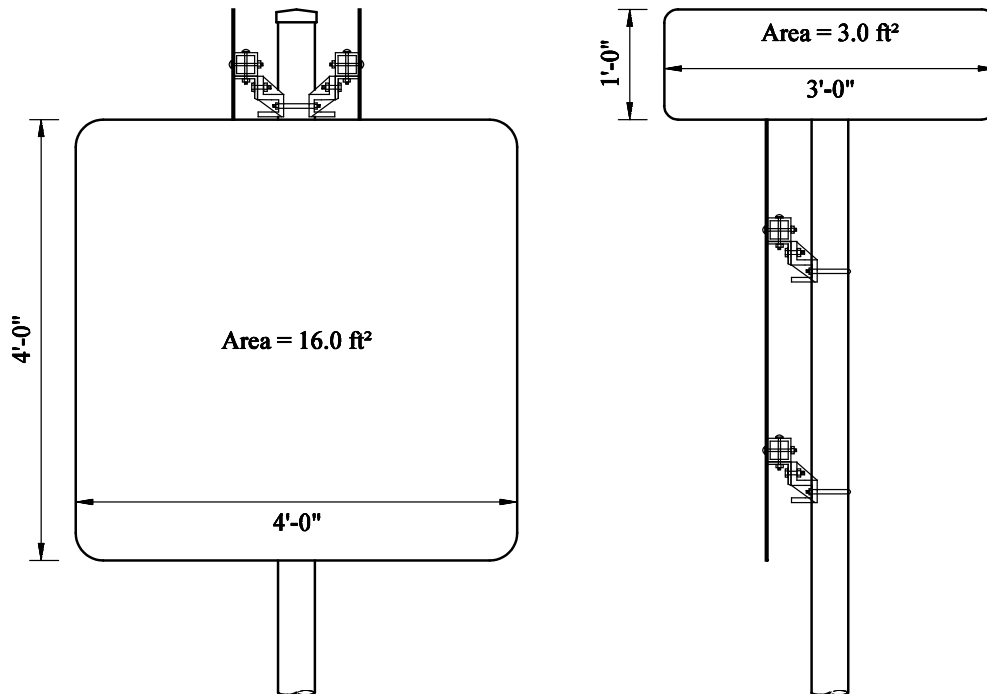

Figure 7 – Design Area Example
37. **Design Area:** The largest total surface area of the signs viewed from any given side. In Figure 7, the design area would be  $16.0 \text{ ft}^2$  not  $19.0 \text{ ft}^2$ . The design area is measured in square feet and by default is calculated automatically from the **Sign Height** and **Sign Width** fields. If the design area is different than what is calculated, enter in the correct value.